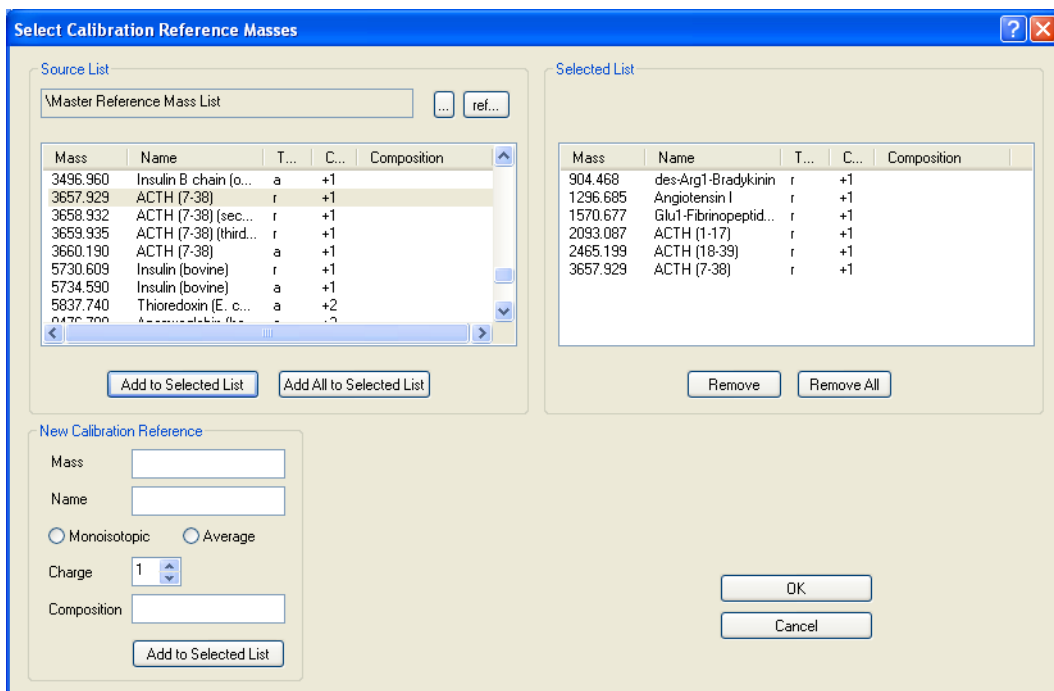

Figure 5-11 Select Calibration Reference Masses Dialog Box
- Click **Edit** in the Reference Masses section. The Select Calibration Reference Masses dialog box opens (Figure 5-11).
- Select the **Master Reference Mass List**, then click **Select**. The reference masses appear in the Source List on the left of the Select Calibration Reference Masses dialog box (Figure 5-11).
8. Click **Add to Selected List**. The selected masses are added to the Selected List on the right of the dialog box (Figure 5-11).